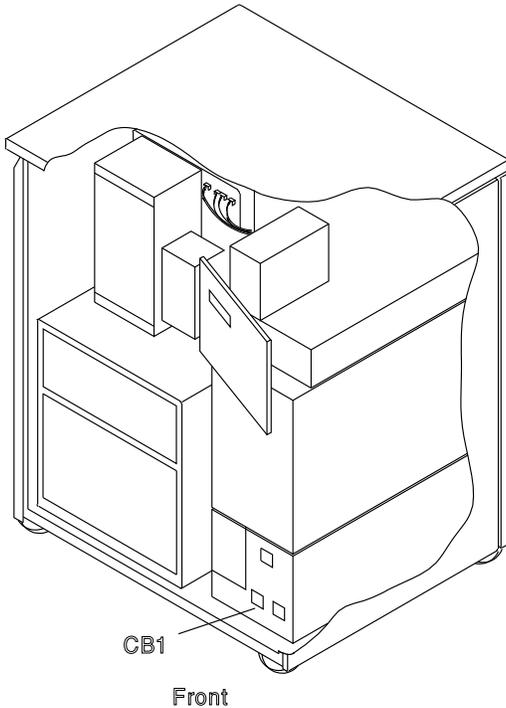

Figure 4-114. CB1 Location
4. **Switch CB1 OFF.** Refer to Figure 4-114.